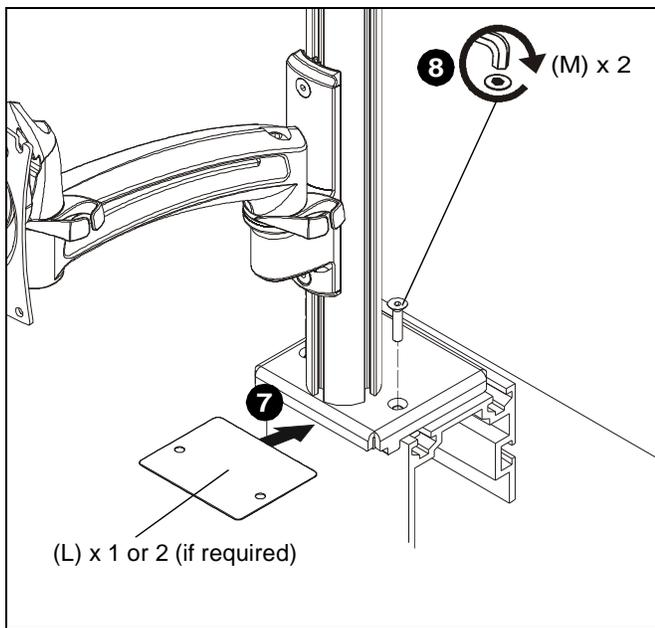

Figure 9
**NOTE:** If mount leans forward after installation, install one or two shims (L) in between mount base and rail as shown in the following steps.
**IMPORTANT ! :** Do NOT install one or both shims (L) unless required as damage to the Frame One rail may result!
6. Remove two #10-32 x 7/8" flat head cap screws (M) holding mount base to channel plate (K).
7. Slide one or two shims (L) in between mount base and rail, lining up holes on shim(s) with holes on plate and rail. (See Figure 9)
8. Use two #10-32 x 7/8" flat head cap screws (M) to reinstall mount base to channel plate (K). (See Figure 9)